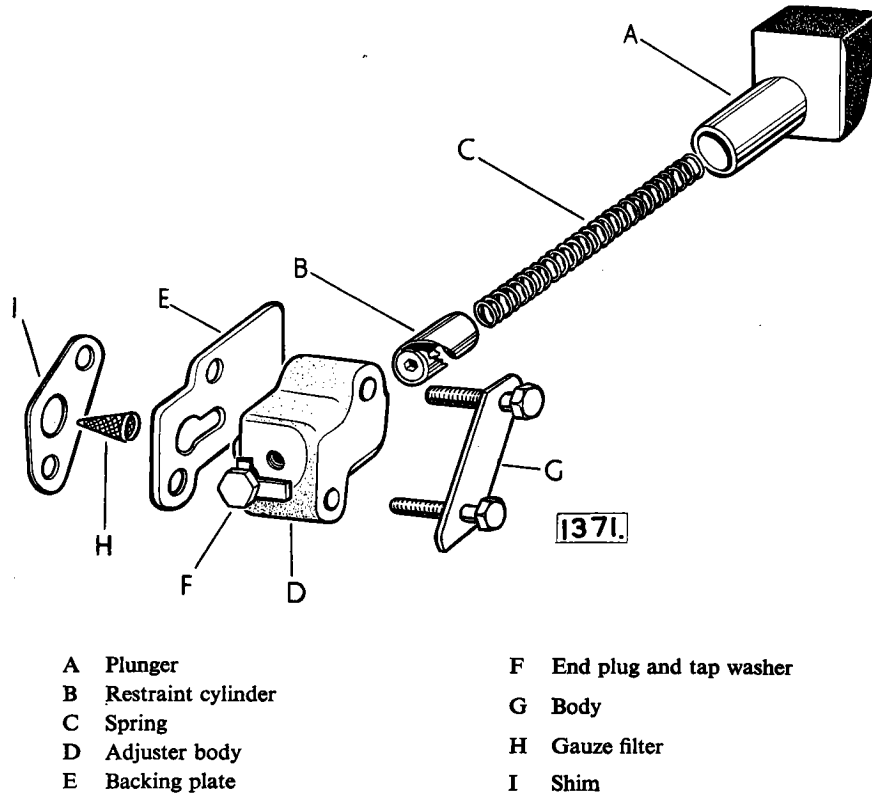

Fig. 59. Exploded view of the bottom timing chain tensioner.
The bottom timing chain tensioner is of hydraulic type and consists of an oil resistant rubber slipper mounted on a plunger (A, Fig. 59) which bears on the outside of the chain. The light spring (C) cased by the restraint cylinder (B) and the plunger, in combination with oil pressure holds the slipper head against the chain keeping it in correct tension.